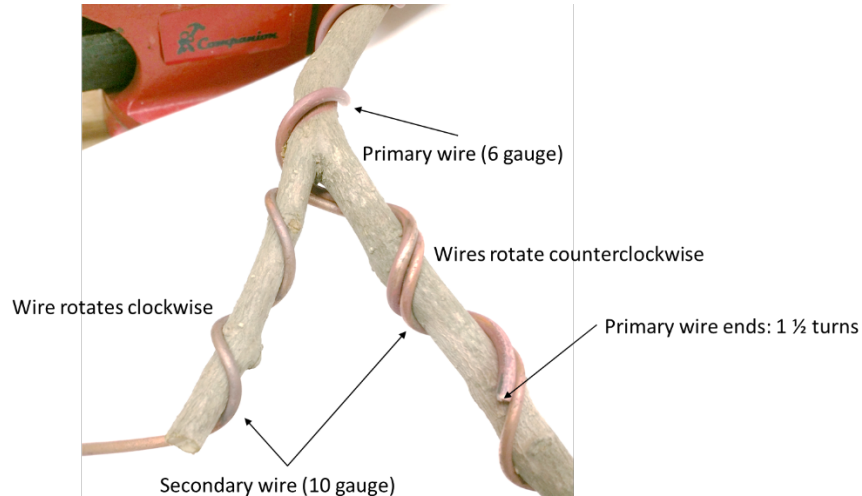

Figure 6.
- Structural wire on a primary branch rarely goes to the end of the primary branch (See **Figure 6**). A primary branch becomes progressively less thick as the wiring proceeds to the end of the branch. At or before the point where the wire becomes too big for the primary branch, the primary wire is continued a turn and one half beyond the nearest secondary branch junction. Continuing a turn and one half provides an anchor point for the finer wire that is used to complete wiring the remaining portion of the primary and the secondary branch that will ultimately be wired.
- For secondary branches the wire follows the structural wire on the primary branch for some distance to get from one secondary branch to the other secondary branch. See Figure 6 for an example.